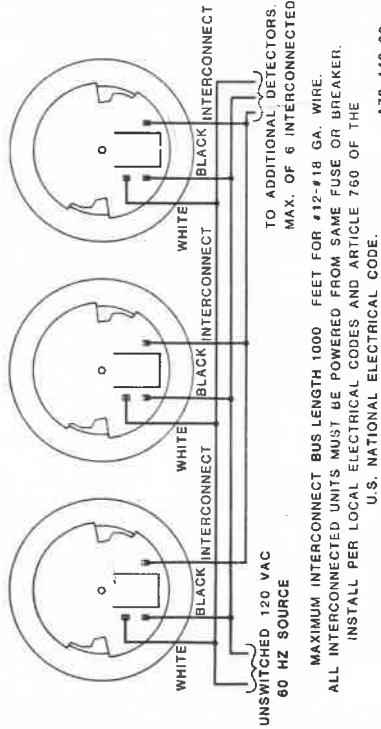

Figure 5
5. Interconnect by connecting the interconnect wires on all units to each other. Refer to Figure 5 below.